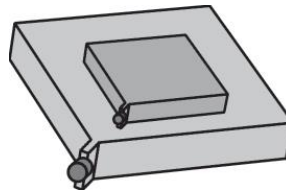

Figure 13 – Placement of two Air Bags
- 5.5.2 Place the larger air bag at the base and the (next sized) smaller bag on top and in the centre of the larger one. Ensure that the inflation nipples for both bags are facing the same direction, front right or left (see Figure 13).